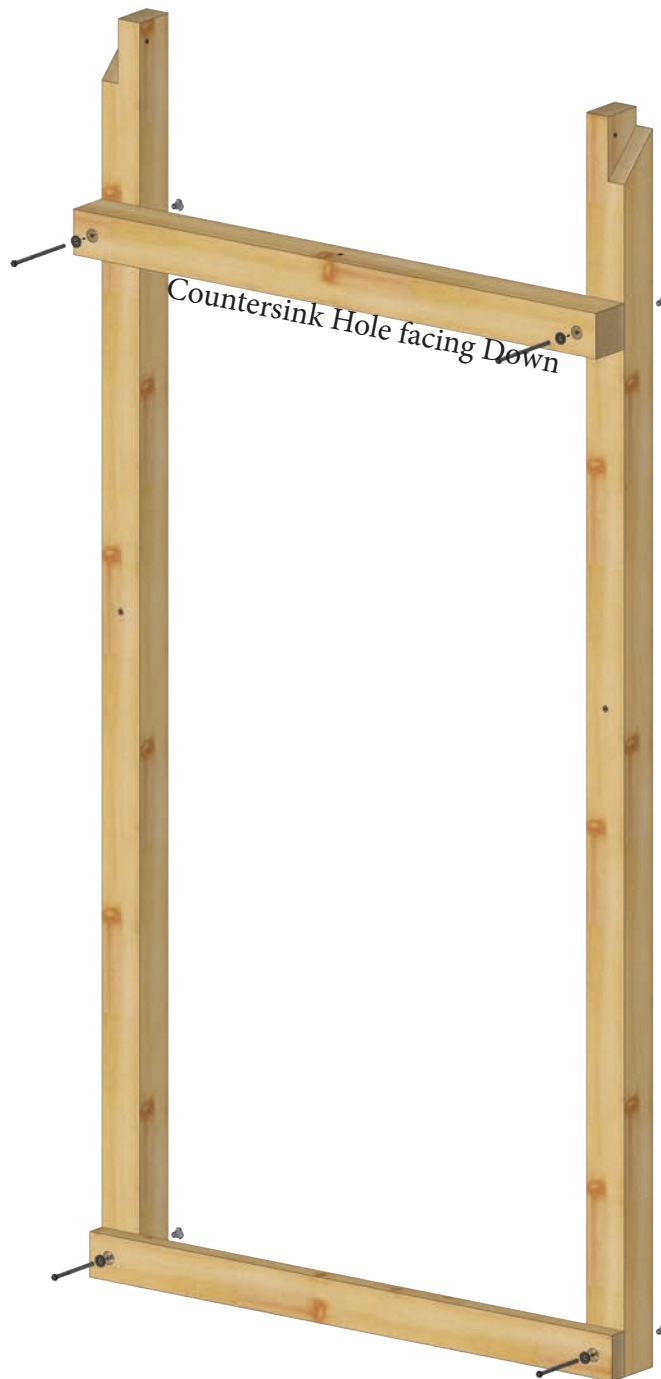

Figure 2.0
2.1 With a hammer, insert T-Nuts into Corner Post - L and Corner Post - R as shown in Figure 2.0. Note direction of the Lap Joints at the top of the posts.